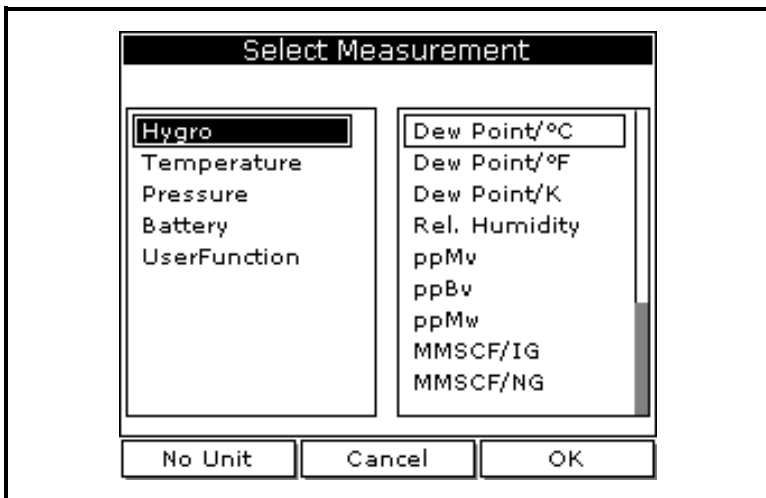

Figure 3-2: The Select Measurement Window
2. Use the arrow keys to scroll to **Measurement** and press [ENTER]. The screen appears similar to Figure 3-2 on the next page. The left column displays the five measurement types and the right column displays the measurement units.